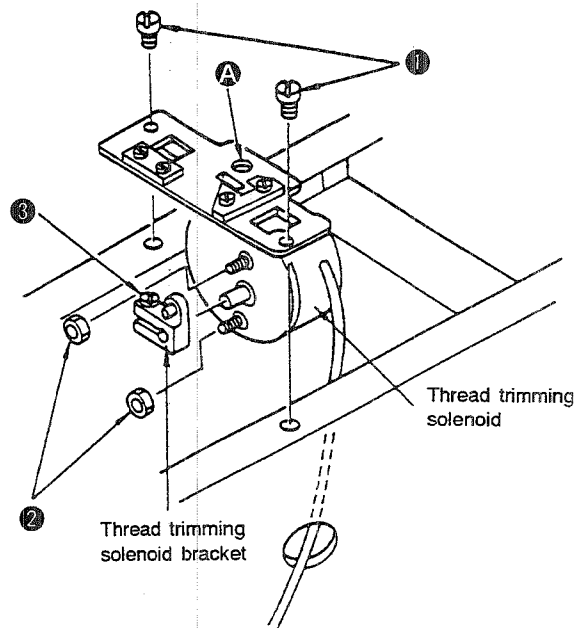
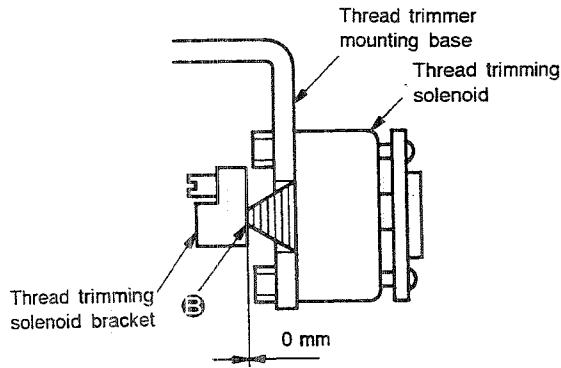
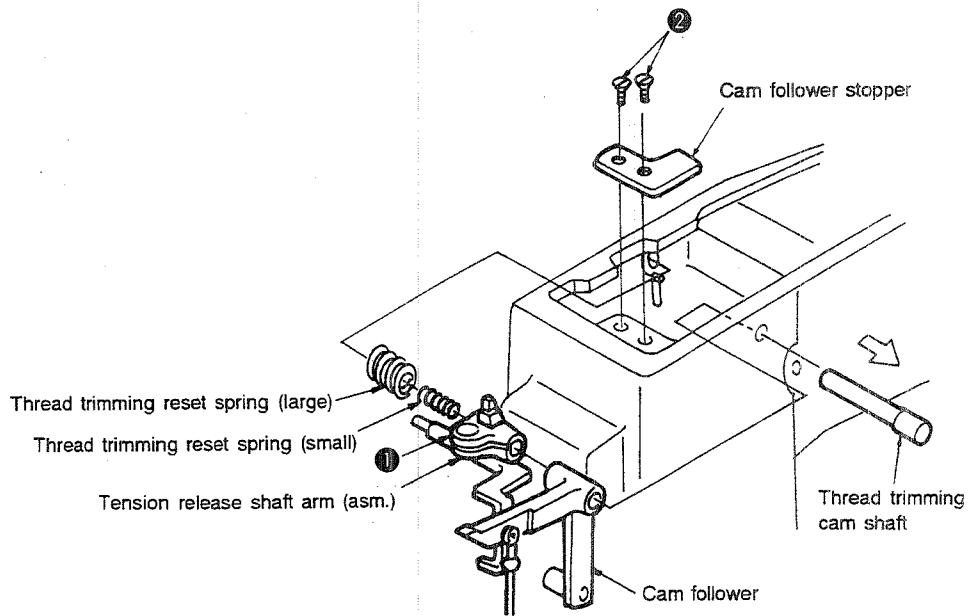

Fig. 5-46-1
Fig. 5-46-2
Fig. 5-47-1
- To fix the thread trimming solenoid bracket, press the tension release shaft arm against the cam follower after fixing the thread trimmer mounting base (Fig. 5-47-1). Then, insert a screwdriver through **A** of the thread trimmer mounting base, and tighten setscrew **B** (Fig. 5-46-1). At this time, adjust the clearance between the trimming solenoid bracket and the thread trimming solenoid **B** portion to 0 mm. (Fig. 5-46-2)
- For the adjustment of the thread trimmer mounting base, refer to "STANDARD ADJUSTMENT (16)".